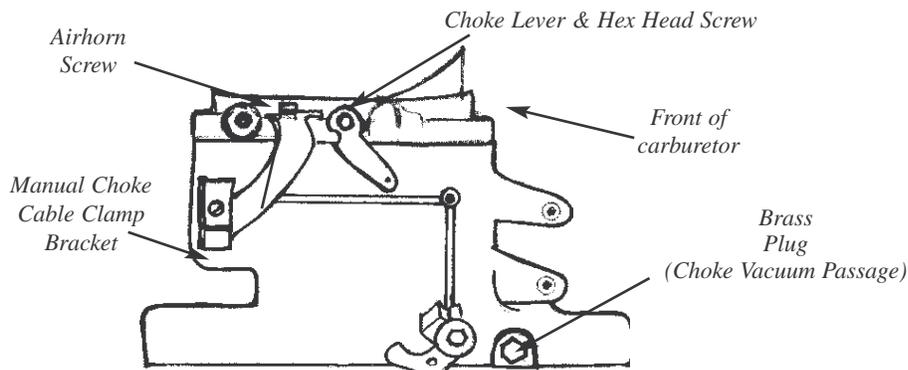

FIGURE 1
- Remove the manual choke cable clamp bracket (Figure 1) by removing the airhorn screw. Re-tighten the airhorn screw after the bracket has been removed.
- Remove the choke cable lever hex head screw and the choke cable lever (Figure 1).
8. Place the 1/4" AN washer from the kit on the protruding end of the shaft. Install the new electric choke lever using the hex head screw (Figure 1). Ensure choke valve and linkages work freely. It may be necessary to remove the aforementioned 1/4" AN washer if the shaft is binding.
9. Remove the brass plug (Figure 1) from the choke vacuum passage using pliers. Blow compressed air through the passage to ensure it is not blocked.